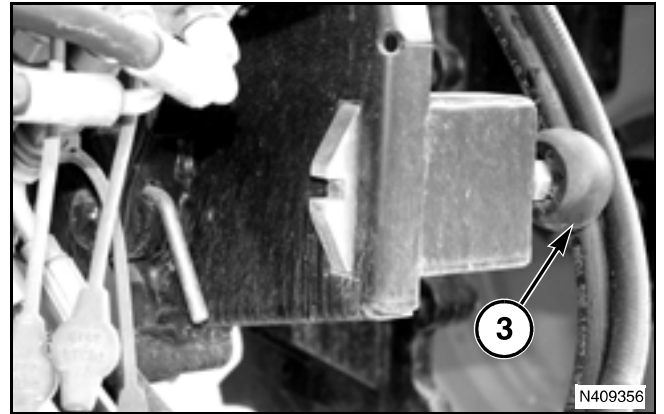

FIG. 234
FIGS. 234–235: Prior to Serial Number HS87101 and HS36101: Pull out on the knob (3) to release the lock and raise the chaff spreader to the service position to access the gas struts.